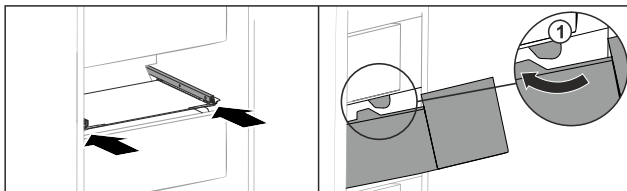

Fig. 137
- Guide drawer around the stoppers Fig. 137 (1).